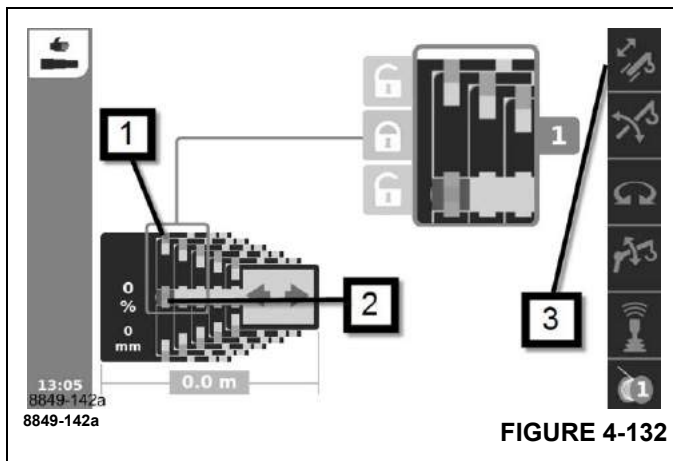

FIGURE 4-132
Telescoping mechanism on – symbol (3), (Figure 4-132) green